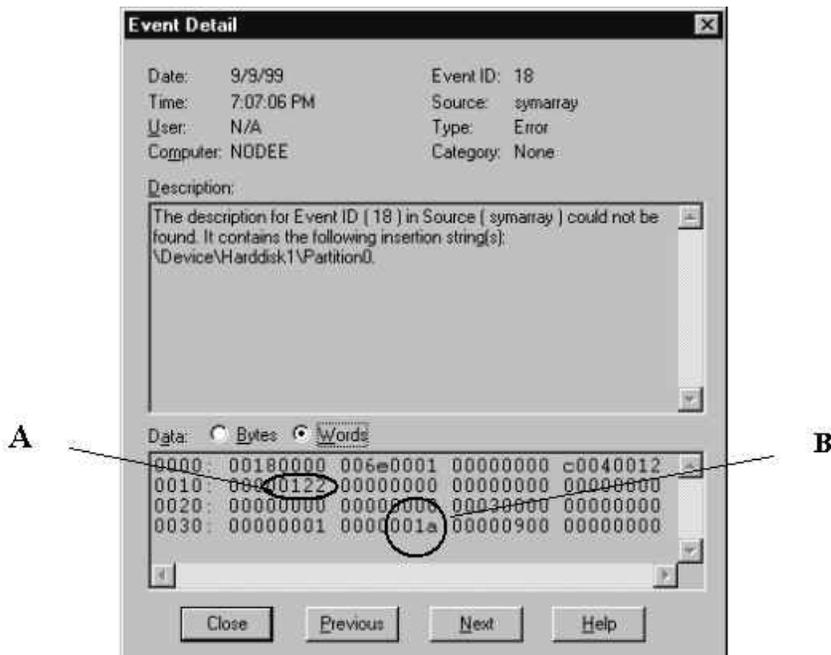

Figure 109. Event Detail
2. Select the **Words** radio button to convert the bottom text from bytes to words. See Figure 109.